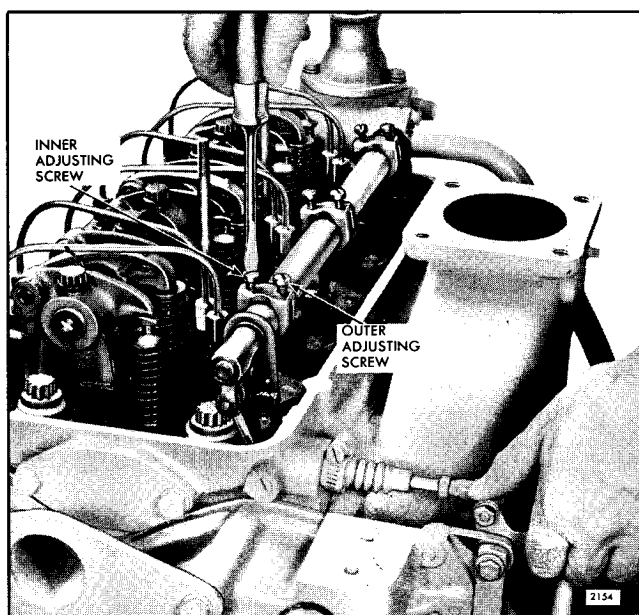

Fig. 1 - Positioning Injector Rack Control Lever
2. Loosen all inner and outer rack control lever adjusting screws, Fig. 1. Check each rack control lever to ascertain that it is loose on the control tube.